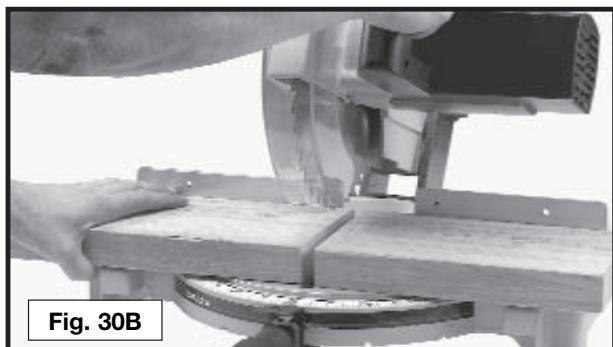
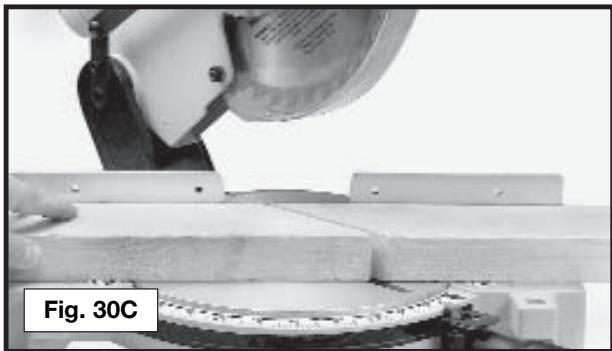

Fig. 30B
Fig. 30C
2. A standard 2 x 6 can be cut in the 90° straight cut-off position in one pass (Fig. 30B) or at 45° right or left miter angles (Fig. 30C).